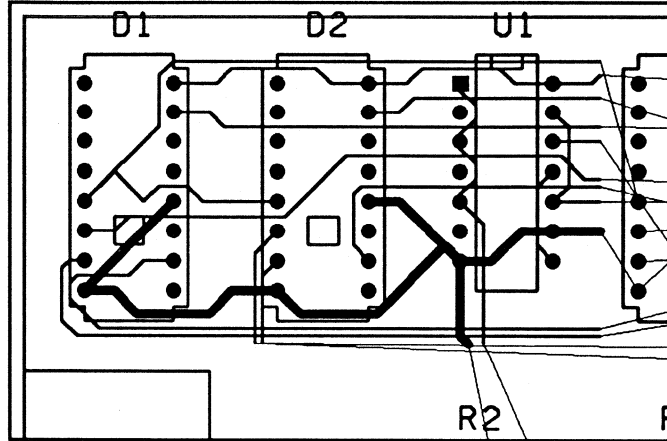

Figure 8-4. The finished autorouted area.
4. Select **OK** to close the dialog box. The ratsnest for the whole board displays, and the ratsnest for the incomplete routed tracks displays at their unconnected endpoints. See figure 8-4.